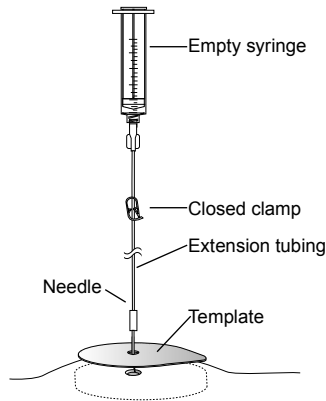

Figure 8. Close clamp and insert needle into reservoir fill port.
6. Using sterile procedures, assemble the needle, extension tubing, and empty syringe (Figure 8).
8. Close the clamp (Figure 8).
9. Gently insert the 22-gauge needle through the template center hole and into the center of the reservoir fill port septum until the needle touches the needle stop (Figure 8).